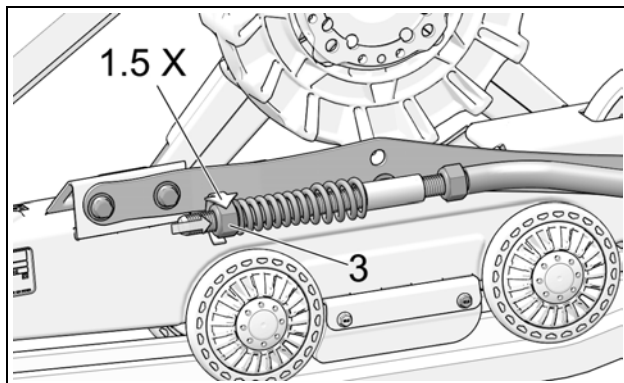

Figure 11
- Turn nut (3) until it comes in contact with the spring, then compress the spring by turning the nut 1 1/2 turns. See Figure 11.